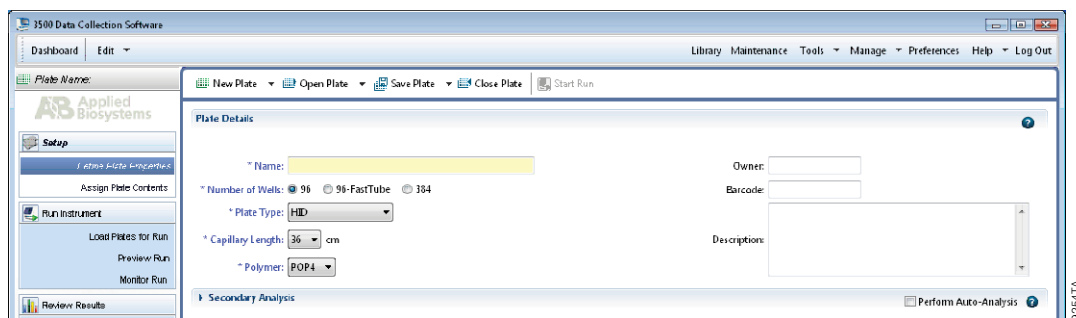

Figure 10. Defining plate properties.
9. Assign a descriptive plate name. Select the plate type “HID” from the drop-down menu (Figure 10).